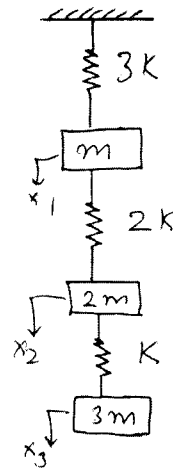

Fig.Q7(b)
- b. Using Stodola's method, determine the fundamental mode of vibration of the spring mass system shown in Fig.Q7(b).